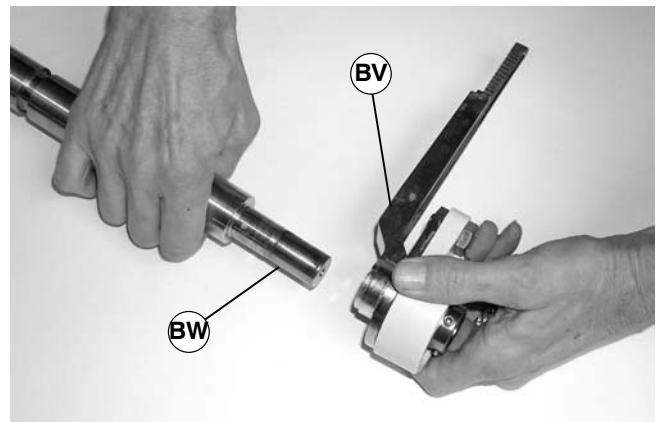

Figure 44
- Remove bearing and head plate assembly (BV of Figure 44) from idler spindle (BW).
1. Make sure bearing surfaces on idler spindle are free of nicks and burrs. Slide bearing and head plate assembly (BV of Figure 44) on idler spindle (BW).